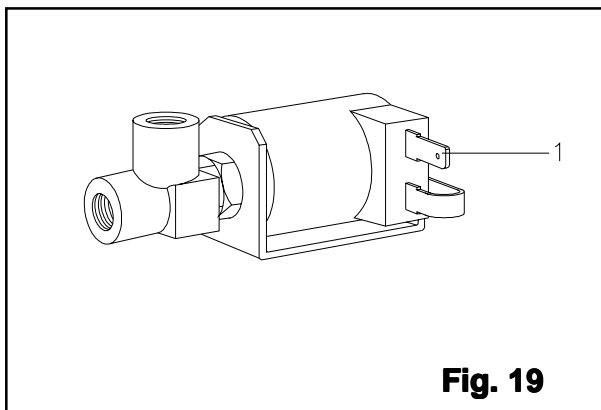

Fig. 19
- Scollegare il fast-on (Fig.19 Rif1).
- Disconnect the fast-on terminal (Fig.19 Ref.1).